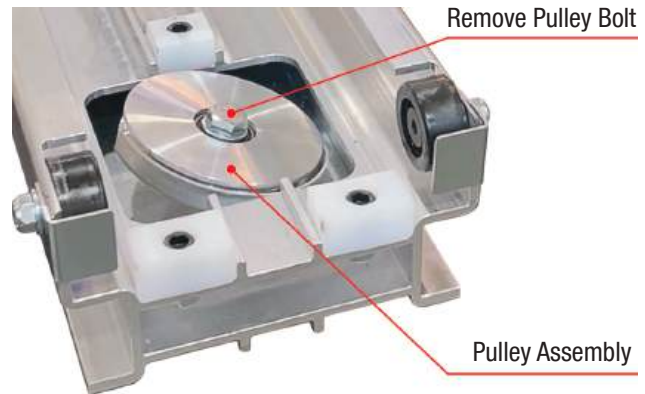
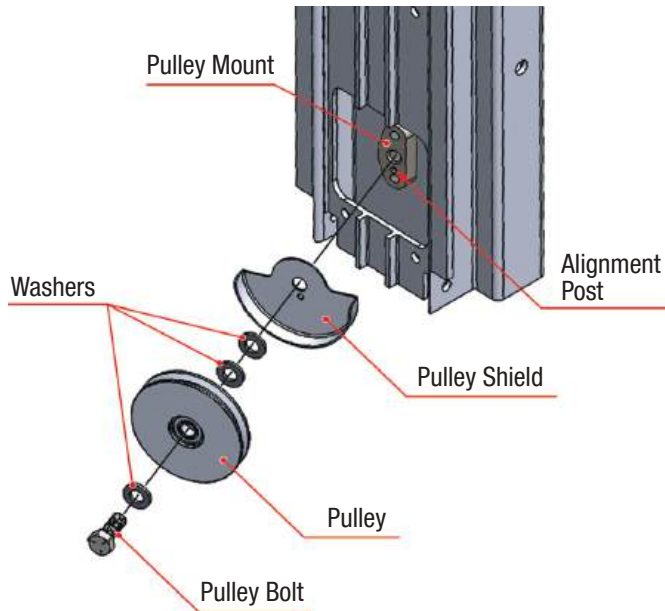

Figure 4-15: Removing Pulley Assemblies
Figure 4-16: Pulley Assembly Parts and Installation Order
16. Using a 3/4" socket wrench, remove the upper and lower pulley assemblies of the re-installed mast section (see Figure 4-15). IMPORTANT: Be sure and note the placement of the three washers. Re-install washers in the same order (see Figure 4-16).
18. Apply a dab of blue Loc-Tite to the pulley bolt threads and loosely attach the lower pulley assembly back in place. NOTE: There is a small post on the pulley mount. Align that post with the mounting hole in the pulley shield (see Figure 4-16).
20. Apply a dab of blue Loc-Tite to the pulley bolt threads and loosely attach the upper pulley assembly back in place. NOTE: There is a small post on the pulley mount. Align that post with the mounting hole in the pulley shield (see Figure 4-16).
24. On the fork carriage, use a 3/4" socket wrench to remove the carriage pulley assembly. IMPORTANT: Be sure and note the placement of the three washers. Re-install washers in the same order (see Figure 4-16).
25. Apply a dab of blue Loc-Tite to the pulley bolt threads and loosely attach the carriage pulley assembly back in place. NOTE: There is a small post on the pulley mount. Align that post with the mounting hole in the pulley shield (see Figure 4-16).